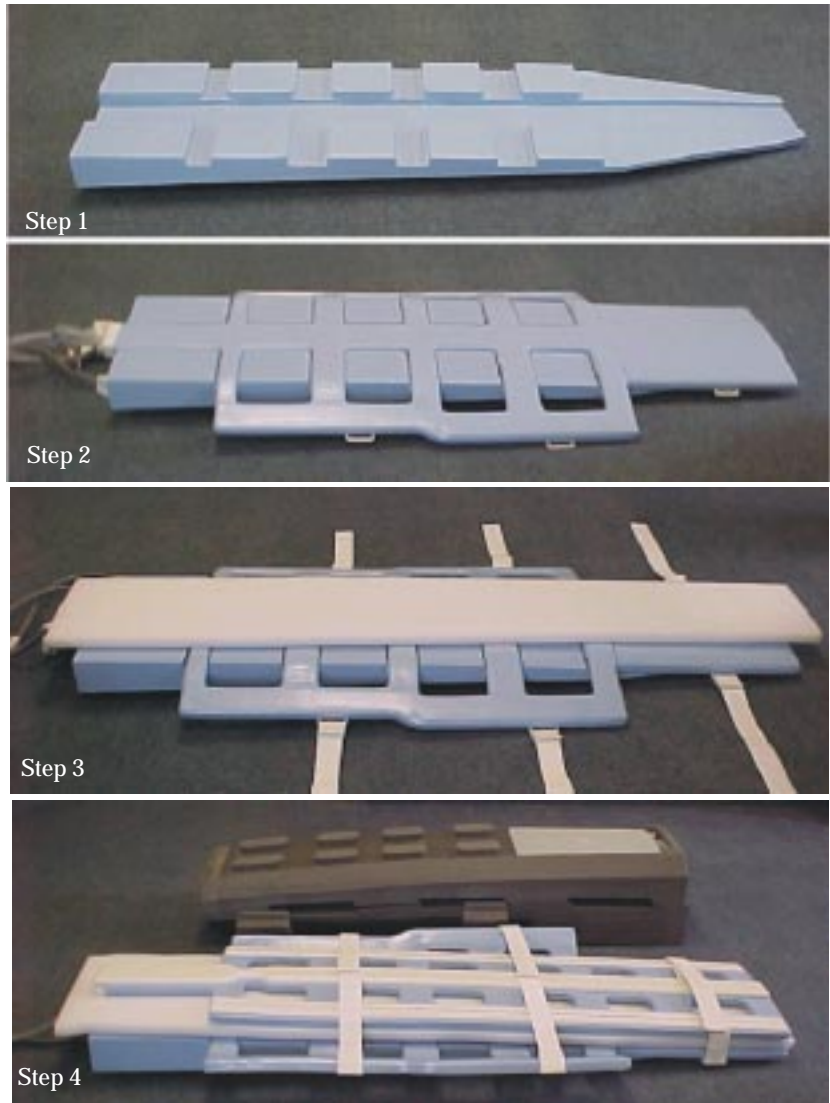

Figure 15: Storing the coil.
- **Cleaning** -- The following cleaning solutions are recommended for the coil and pad surfaces: (1) a ten percent bleach solution (some discoloration may occur), (2) one ounce commercial dish-washing liquid mixed with one gallon water or (3) warm water. Apply cleaning solution to a soft cotton cloth and proceed to clean. To prevent soiling of the coil, the user should place a clean cotton sheet over the coil before positioning the patient. If the coil is soiled, clean the coil as described above.
- **Coil Storage** -- Lay the ramp pad and posterior array coil completely flat (*see Figure 15*). Place a sheet on top of the posterior array coil (*see Figure 15*). The sheet separates the posterior array coil and anterior array coil to prevent them from sticking. Place the anterior array coil on top of the sheet and loosely fasten the Velcro straps (*see Figure 15*). Please note that although the straps are fastened together, the coil is not bent. **Note: The coil should be handled with care. Gently bend the coil when necessary -- never fold/crease the coil sharply. Avoid excessive folding of the coil.**
- Storage of the Phantoms -- The phantoms may be stored next to the coil as shown in *Figure 15* or in the shipping box as shown in *Figure 16*.